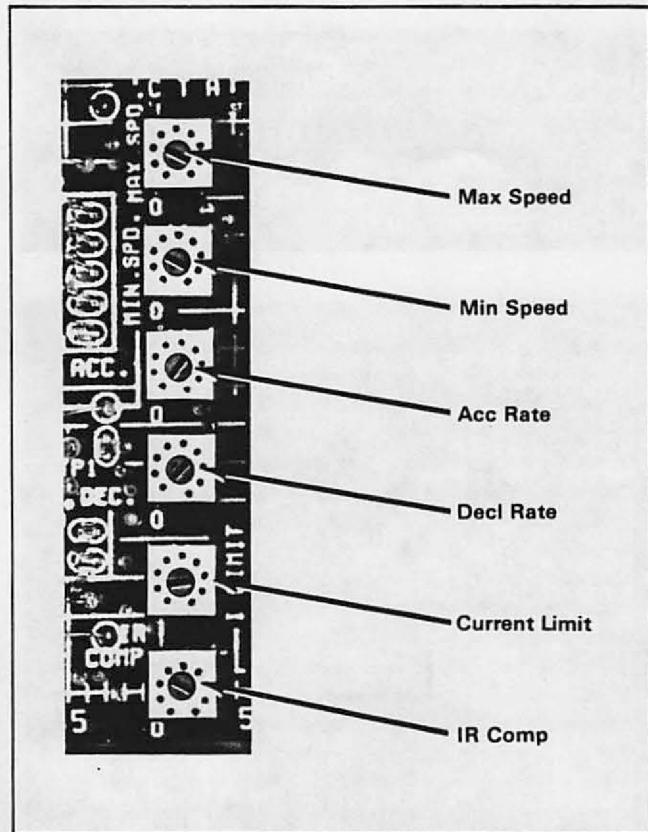

Figure 4.1 — Regulator Module Potentiometers
**4.3.1 Regulator Module Pots** — The Regulator Module has six adjustable potentiometers mounted on it. (Refer to Figure 4.1.) They control the following functions:
Locate the Maximum Speed Potentiometer on the Regulator Module. (Refer to Figure 4.1.) The letters MAX SPD are printed on the Module. Note that CW rotation represents an increase in speed. CCW represents a decrease.